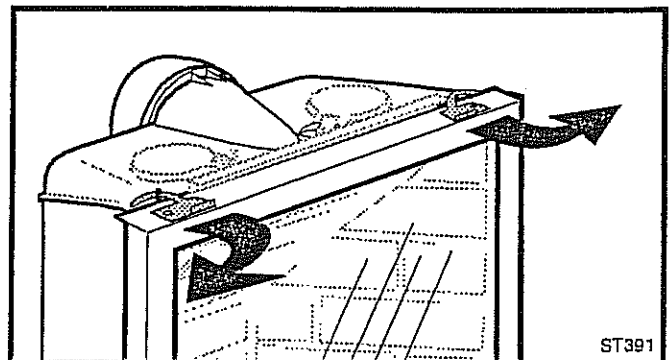

Fig. 26 Pivot the locking latches to release the glass frame.
1. Pivot the two latches at the top corners to disengage the latches from the retainer posts at the top of the firebox. (Fig. 26) Lift the glass frame assembly off the front and place it out of the way on a flat, padded surface such as a counter protected by a towel. *The glass panel will not be replaced until the entire installation is complete and the pilot has been lit.*